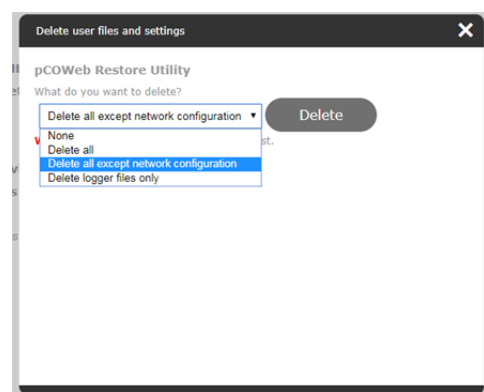

Figure 9.i - Restoring *pCOWeb* to the default situation
- Configure Internet services: configures status of various Internet services: HTTP, HTTPS, FTP, Telnet, SSH/SCP/SFTP. Each service can be disabled, enabled on IPv4 only, enabled on IPv6 only or enabled on both. For each service, the communication port can be set or left unchanged as default, as shown in Figure 9.j.